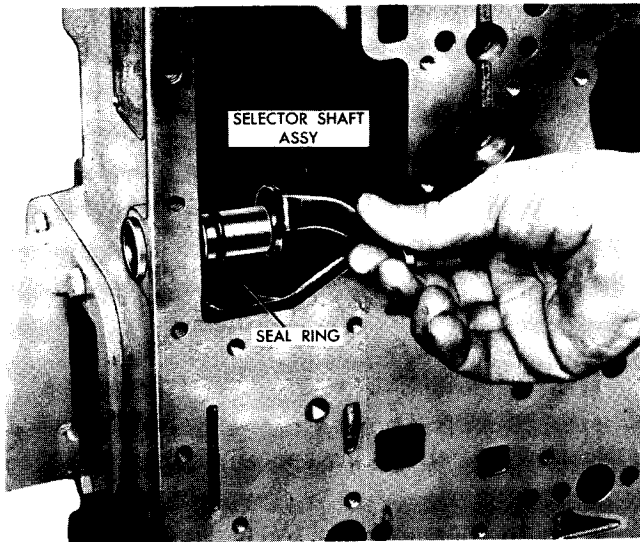
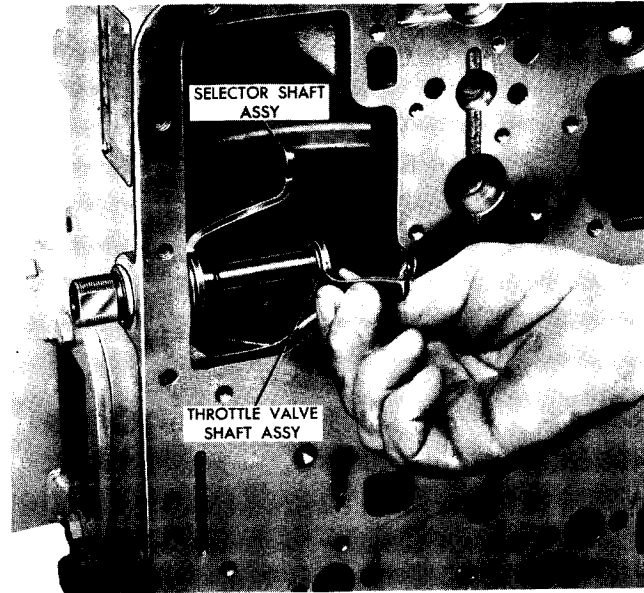

Fig. XIII-3 Installing manual selector shaft assembly
Fig. XIII-4 Installing throttle valve shaft assembly
(1) Install seal ring 25 on manual selector shaft 24.
(2) Install manual selector shaft assembly 24 into shift lever sleeve 51 in transmission housing (fig. XIII-3).
(3) Install seal ring 22 on throttle valve shaft assembly 23.
(4) Install throttle valve shaft assembly 23 inside manual selector shaft assembly 24 in the transmission housing (fig. XIII-4).
(5) Install shift valve lever 49, shift valve lever washer 48 and shift valve lever nut 47. Tighten nut to 14 to 17 pound feet torque.
(6) Install throttle valve outside-lever 46, throttle valve lever washer 45 and throttle valve lever nut 44. Tighten nut to 14 to 17 pound feet torque.
(7) Lock the shift valve lever nut 47 and throttle valve outside-lever nut 44 by bending shift valve lever washer 48 and throttle valve lever washer 45 against a flat on each nut.